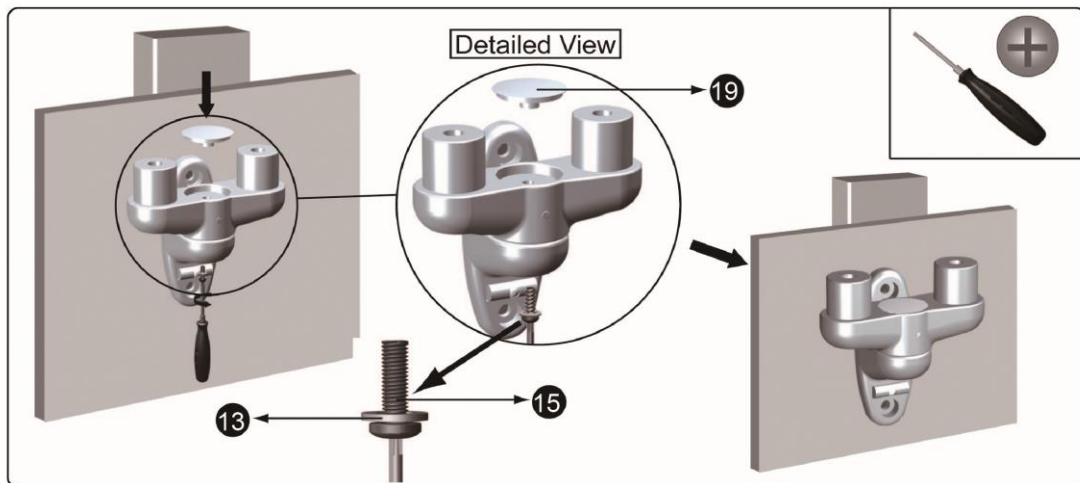

Figure 1-5
5. Place the Cover (19) on the top of the DEK. Place the Phillips Screw M6x12mm (15) through the Plastic Washer M6 (13) and into the bottom of the DEK. Securely tighten with a Phillips screwdriver. Do not over tighten (See Figure 1-5).